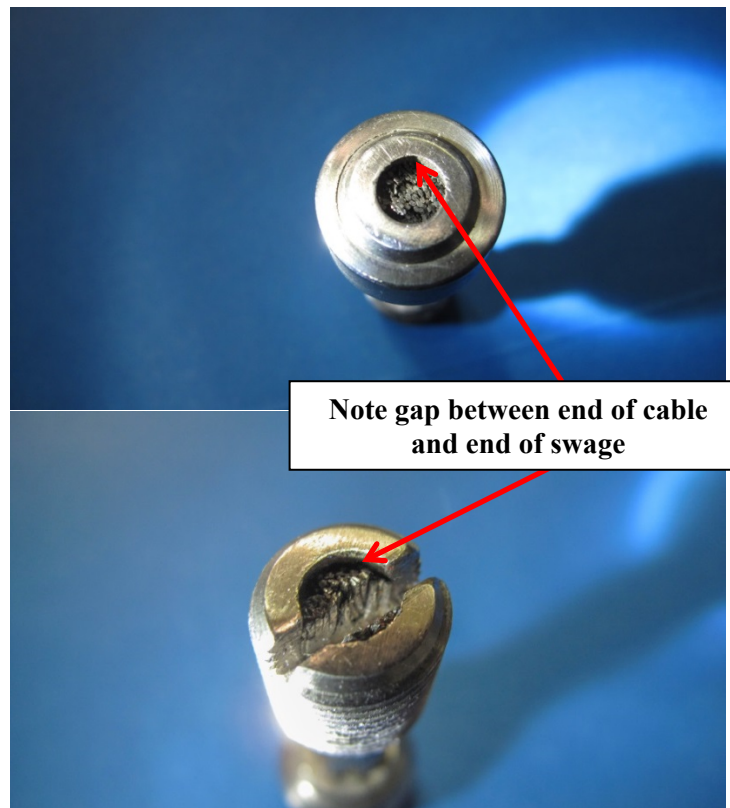

Figure 5-34. Upper thoracic spine flex joint cable pulling through swage
- Inspect the Upper Thoracic Spine Flex Joint Cables (472-3645) for damage such as frays, and ensure that the cable is not pulling through the swages (Figure 5-34); replace the cable if this damage is observed.